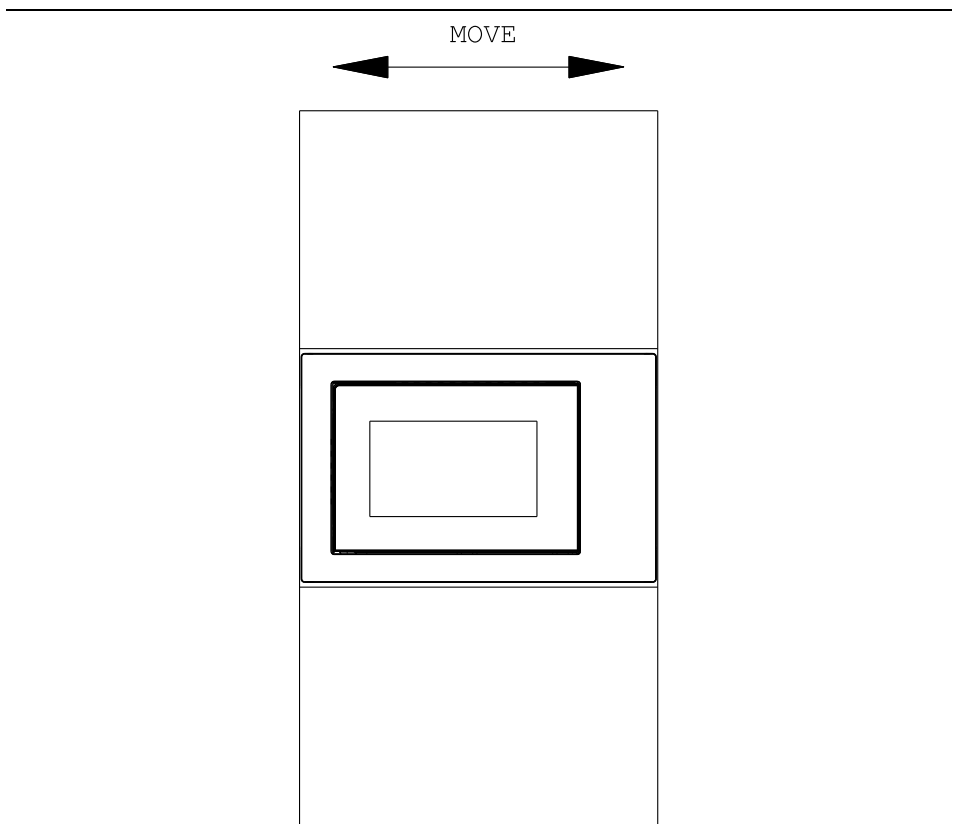

Fig. 3
c) Move the product in parallel in the kitchen cabinet according to the direction of the arrow in the figure, and keep it centered. (Fig. 3)